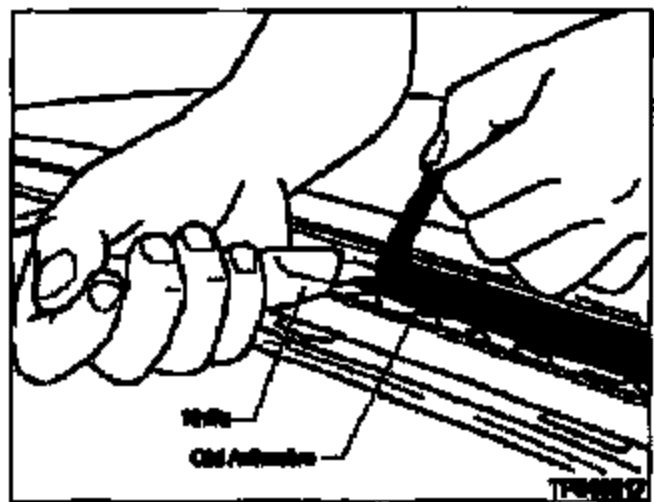

Figure 6
- Trim the old adhesive to be nearly flush with the vehicle body (see Figure 6).